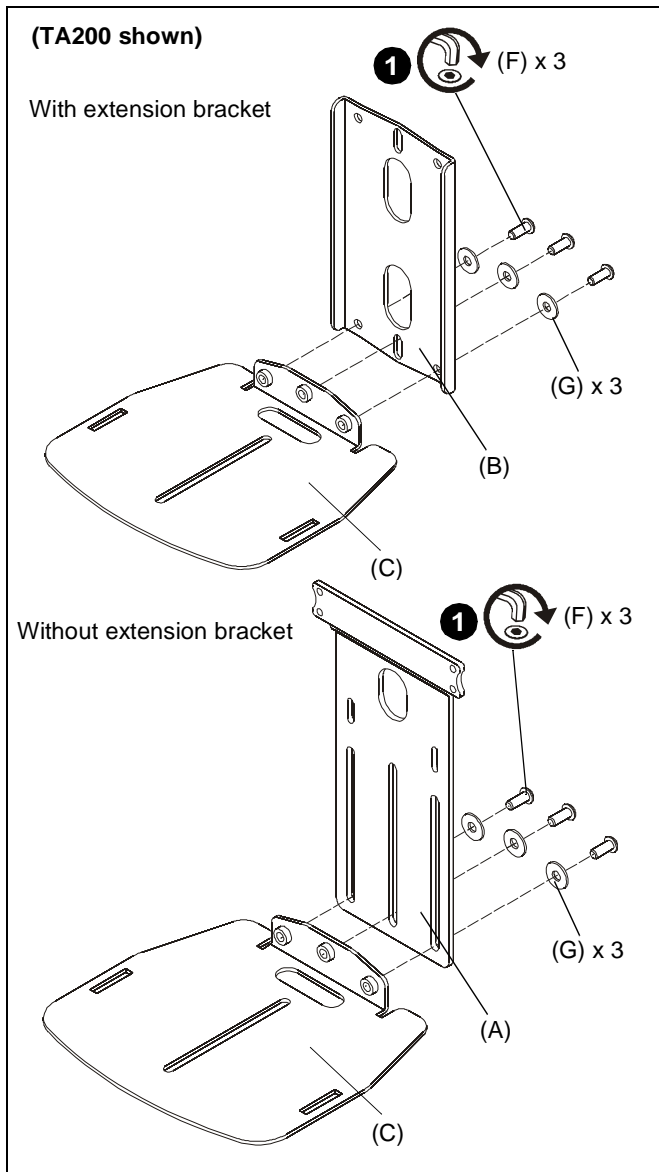

Figure 1
1. Use three 1/4-20 x 5/8" button head cap screws (F) and three 1/4" washers (G) to connect shelf (C) to either extension bracket (B) or attachment bracket (A). (See Figure 1)